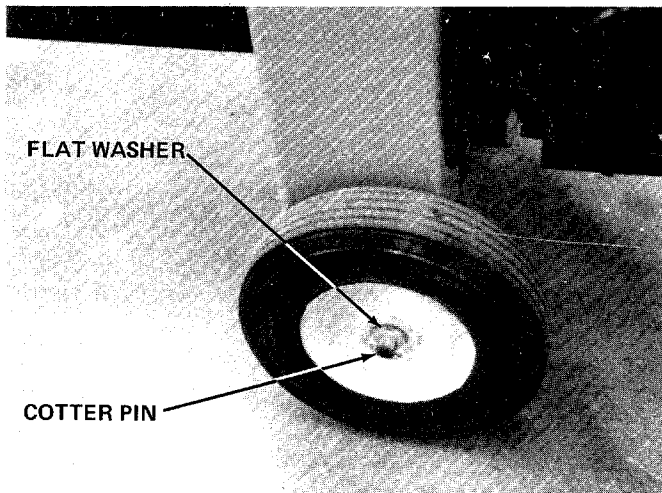

FIGURE 6
3. Block the frame of the unit on the left hand side. Remove the left wheel by removing the cotter pin and flat washer. Slide wheel off. See figure 6.